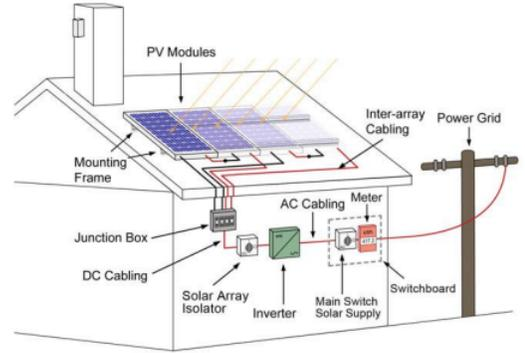

Fig. 3. Model of domestic grid-enabled solar system (4)
When inverters are used to provide grid power, they must first pass power through a switchboard. The role of the switchboard is to monitor the system and electrically isolate inverter from the grid in the event of an emergency to prevent power surges and provide general protection (4). A model of the system is seen in figure 3.